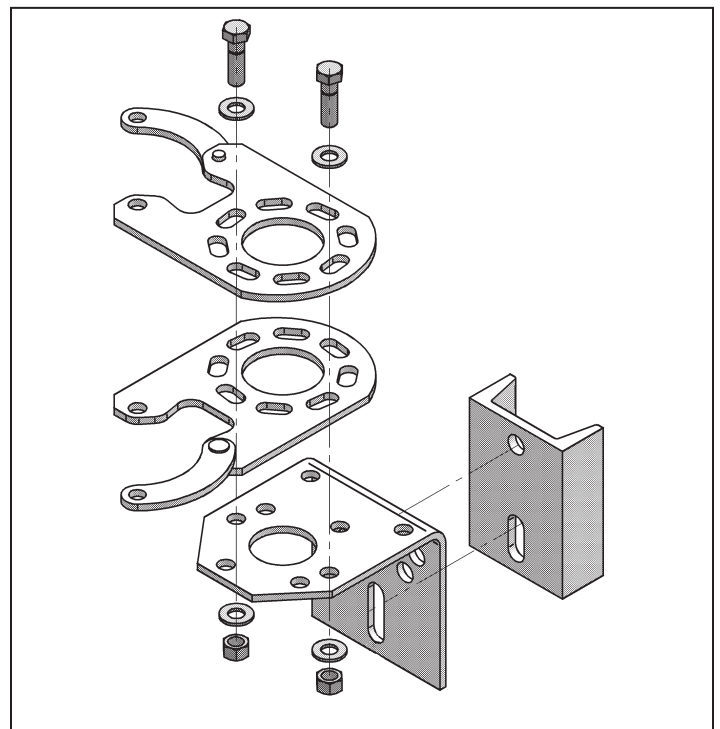

Figure 17. Exploded view of the stop plates and foot-bearing assembly.
STEP 22. The stop-plate holes are slotted to allow room for adjustment. Loosen the bolts securing the adjustable stop-plates to the foot-bearing support plate. See Figure 17. Place the switch in the fully **Open** position and adjust the open-position stop-plate so the handle, when lowered, fits into the open-position slot. Mark the location of the open-position stop plate on the support plate.
- (a) Loosen the hardware securing the closed stop plate. See Figure 17 on page 16.